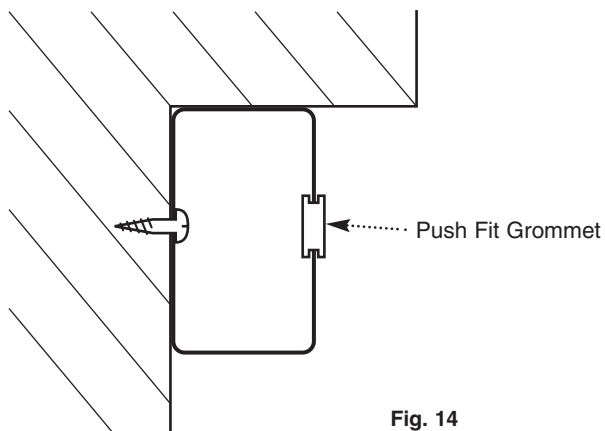

Fig. 14
37. This is done by drilling a 25mm dia hole in the underside or exposed vertical side of the ducting and then drilling a pilot screw hole on the hidden side of the duct i.e. ceiling/wall side of the duct, through the 25mm dia hole. Corresponding fixing holes are drilled in the ceiling/wall and wall plugs fitted as required. Using a screwdriver through the 25mm hole fix the ducting with an appropriate size and length of screw through the pilot hole into the ceiling/wall. The 25mm dia hole is then sealed using an appropriate sized plug (PDPLUG) (Fig. 14).